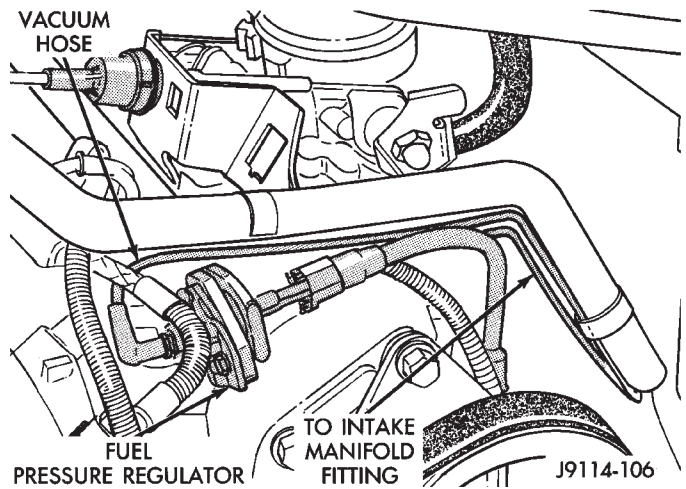

Fig. 13 Pressure Regulator Vacuum Hose—2.5L Engine
(9) Verify that vacuum hose is firmly connected to fuel pressure regulator and manifold fitting (Figs. 13 or 14).